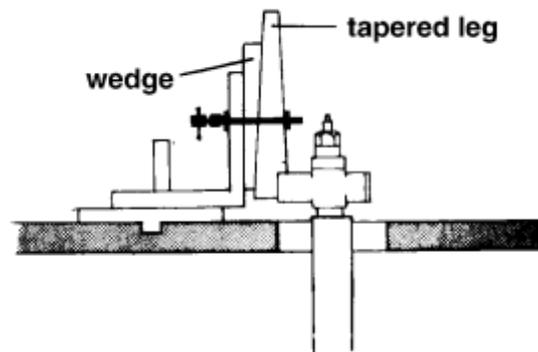

Fig. 60
**Note:** If the leg is tapered, use a wedge to place the side facing the cutter into a 90 degree vertical position as shown in Fig. 60.